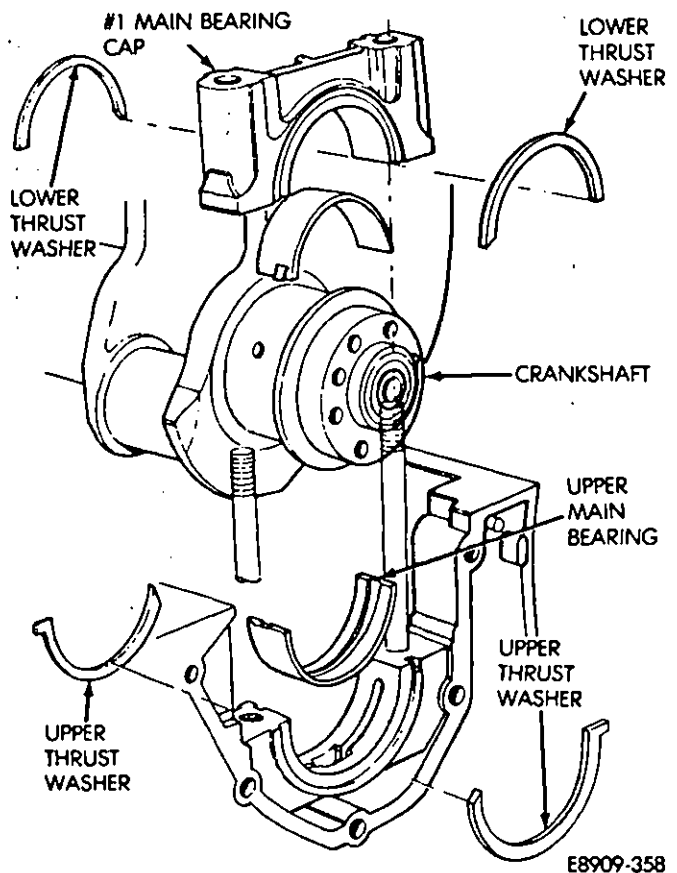

Fig. 11—No. 1 Main Bearing Cap and Components
wheel end of the engine). Remove lower thrust washer from the main cap (Fig. 11).
- (26) Remove the remaining main bearing caps.
- (27) Lift the crankshaft out of the engine.
- (28) Remove upper thrust washers (Fig. 11).